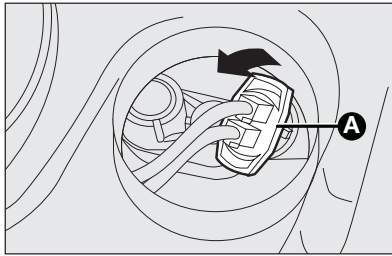

fig. 18
- turn the bulb holder clockwise **A-fig. 18** and withdraw it;